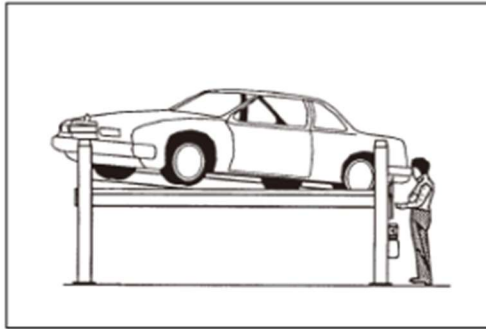

Figure 33 - Improper docking of vehicle
- An improper docking of the vehicle on the lifting platform, improperly parking the vehicle, or an oversized vehicle that does not match the lift specifications can cause the vehicle to fall at risk. (Figure 33)